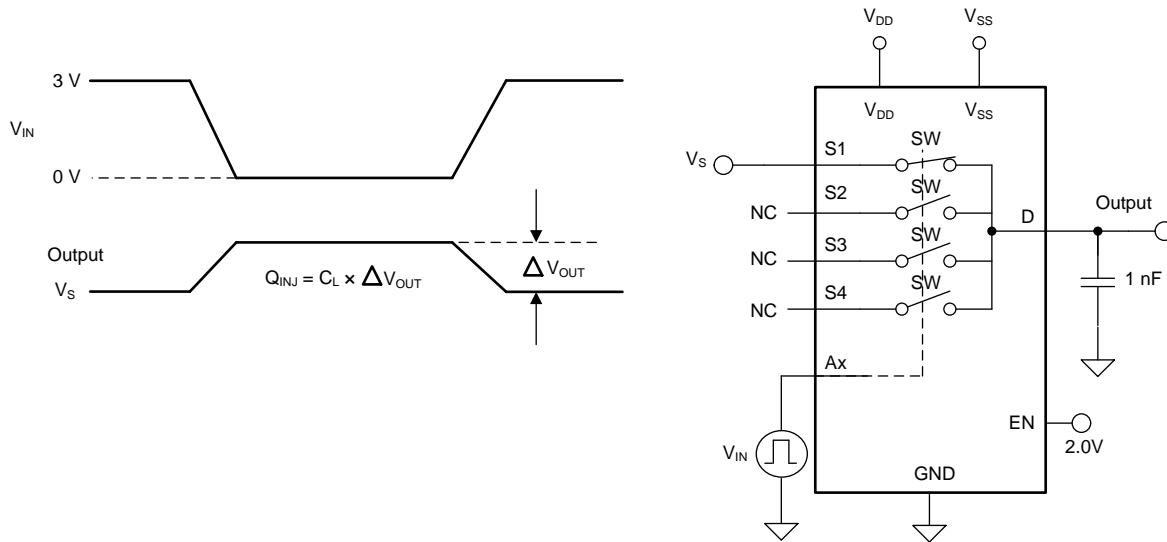

Figure 7. Charge-Injection Measurement Setup
The TMUX6104 have a simple transmission-gate topology. Any mismatch in capacitance between the NMOS and PMOS transistors results in a charge injected into the drain or source during the falling or rising edge of the gate signal. The amount of charge injected into the source or drain of the device is known as charge injection, and is denoted by the symbol Q_{INJ} . Figure 7 shows the setup used to measure charge injection from source (Sx) to drain (D).